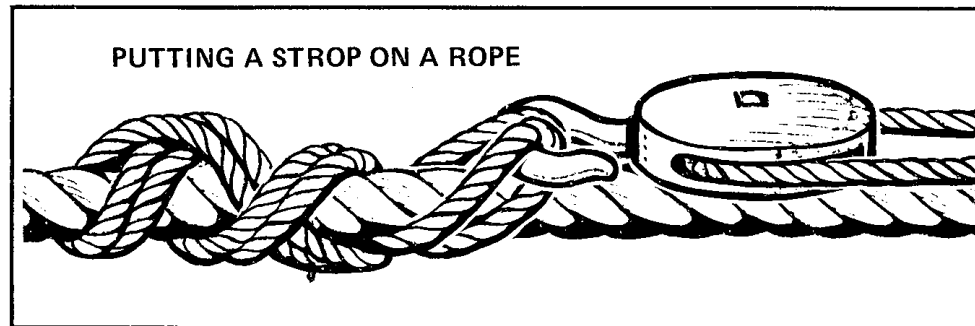

Figure 4-81 Putting a Strop on a Rope
49. **To Put a Strop on a Rope** — Middle a common or selvage strop on the rope. Dog the bights opposite ways and hook the tackle onto both bights, as shown in Figure 4-81.
50. **Uses of a Jackstay** — A typical rig for transferring men and light stores by jackstay is shown in Figure 4-81. The **hauling end** of the jackstay is manned by at least 20 men in the ship supplying the gear, and the other end is secured by its strop to a **rigging slip** in the other ship. The **traveller** is hauled back and forth along the jackstay by an **inhaul** in each ship, manned by two or more men.
51. **Transferring Men and Stores** — Small miscellaneous stores are best transferred in a **canvas container**, details of which are shown in Figure 4-81. Other stores may be slung from the traveller, or transferred in provision nets. Men are usually transferred by a **stirrup**, but a **chair**, rigged as shown in Figure 4-81 may also be used; whenever a man is transferred he should wear a life-jacket. The traveller, with its hook, is a naval store article, but if one is not available an 8-inch clump block, or a 12-inch single block fitted with a spring moused swivel hook, may be used instead; if slings or provision nets are used the hook should be wide enough in the clear to take the bights of the slings or the becketts of the nets.